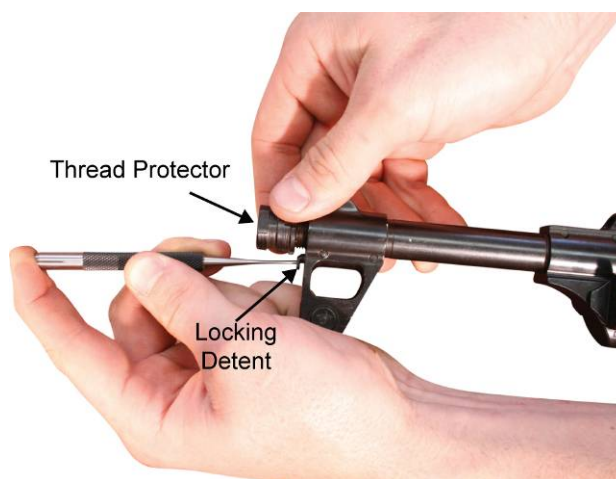

Figure 1. Depressing the Locking Detent and Removing the Thread Protector.
- a. Remove the thread protector (some AK-74 rifles have a compensator instead of a thread protector) from the muzzle of the barrel by holding down the locking detent with a punch and unscrewing the thread protector until it comes off. Refer to Figure 1.